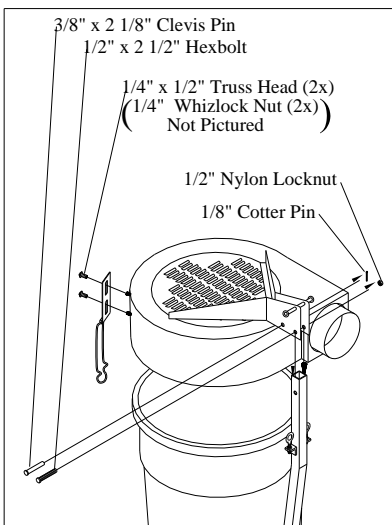

Fig. 7
5. Attach container holder (20) to frame with two 5/8" x 1" hexbolts and locknuts. Tighten bolts until ring supports the container (19) in a tilted position. **Fig. 7**